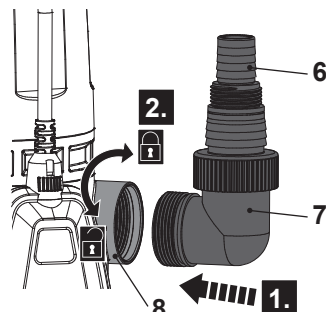

Fig. 2
2. Align and screw the adaptor (7) clockwise to the outlet nozzle (8) (Fig. 2). Tighten it properly.